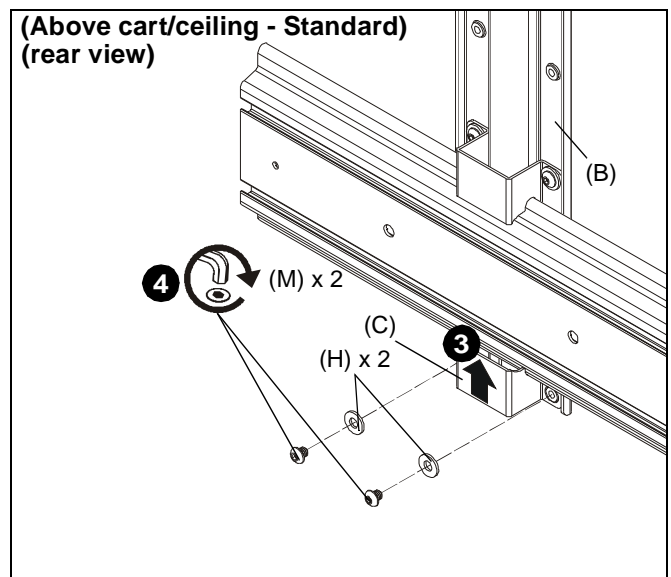

Figure 21
3. Slide second shelf bracket (C) underneath head assembly, lining up holes on shelf bracket (C) to holes on main bracket (B). (See Figure 21)
4. Use two 1/4-20 x 1/4" button head cap screws (M) and two large washers (H) to secure shelf bracket (C) to main bracket (B). (See Figure 21)